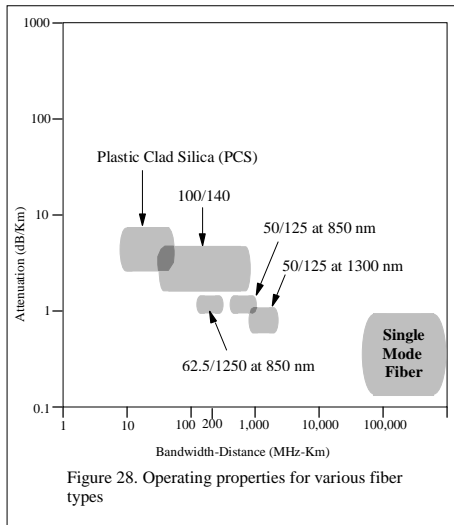

Figure 28. Operating properties for various fiber types
Basic fiber types are presented in Figure 28. The various fiber properties such as attenuation, numerical aperture (NA), core diameter have all been covered earlier in this brochure. NA and core diameter must be considered for launch conditions. All fibers can be compared over one kilometer lengths for fiber properties and relative optical power as in Table 4.